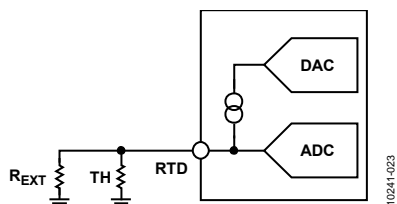

Figure 24. Temperature Measurement Using Thermistor
By connecting an external resistor (R_{EXT}) in parallel with the NTC thermistor (TH), a constant current can be used to achieve linearization (see Figure 24).